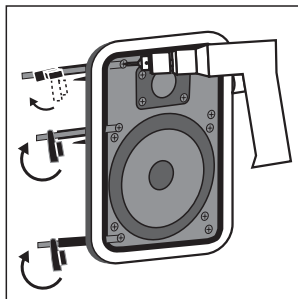

Figure 14—Tighten retaining wall clamps to engage wall. Use a #2 Phillips head screwdriver or a powered screwdriver.
7. If you have a level, use it to help you correctly align the speaker. Tighten the wall clamp screws with a screwdriver. This will rotate the wall clamps and secure the speaker to the wall. **Hint**—on the MC65 and MC85 models, tighten the center screws before tightening the corners for the most flush fit to your wall. **Do not over tighten the wall clamp screws** (figure 14).